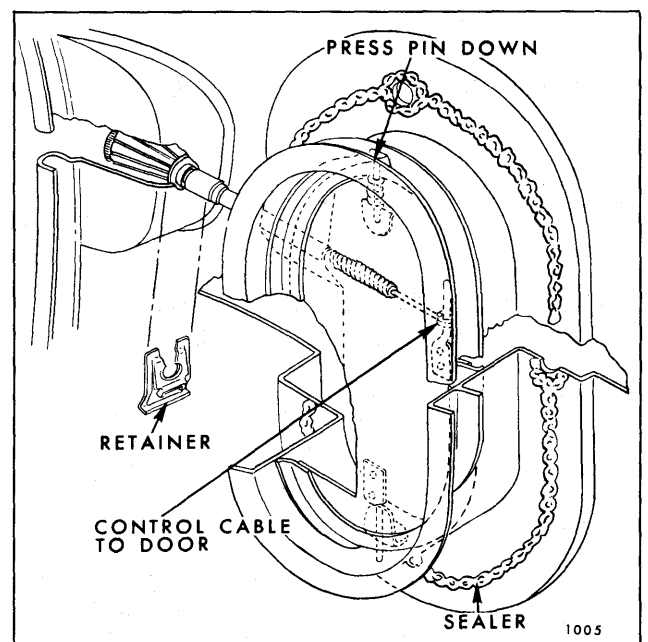

Fig. 5-6—Shroud Side Finishing Panel and Air Outlet - "A, F, X & Z" and 26657 Styles
5. To install, apply a generous bead of medium-bodied sealer to flange of finishing panel and duct assembly (Fig. 5-6) and reverse removal procedure.
2. Disconnect control cable from door (Fig. 5-6).
3. Depress upper pivot pin (Fig. 5-6) and remove door assembly.
3. Remove retaining clip securing control assembly to finishing panel (Fig. 5-6) and remove control assembly.